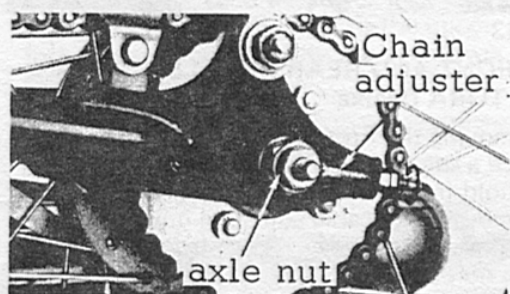

Fig. 45
1. Chain is properly adjusted when there is approximately $3/8$ of an inch free play up and down. (Figure 45)